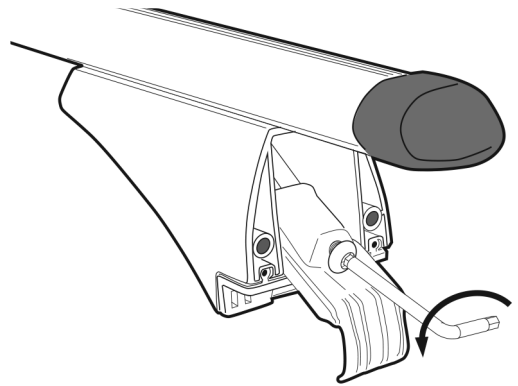

Fig. 6
3. Once the roof bars are positioned, secure the bolts back in place using the supplied allen key onn each end of both roof bars Figure 6.